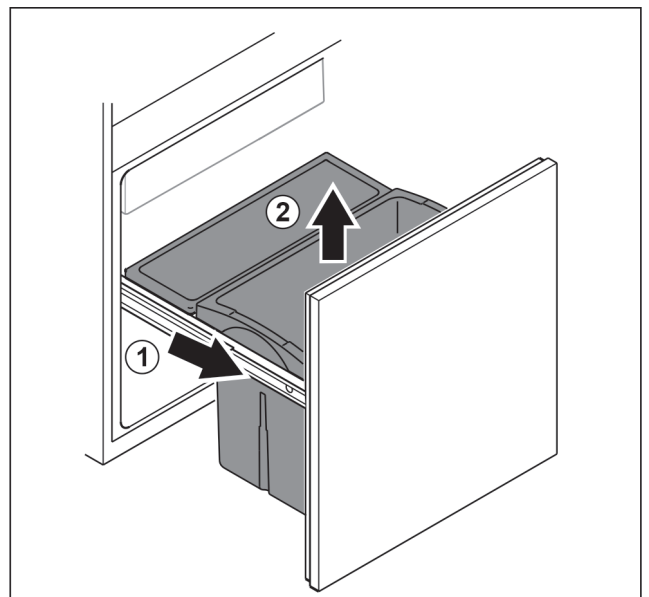

Fig. 148
- ▶ Remove the pull-out unit as far as it will go. Fig. 148 (1)
- ▶ Remove drawer upwards. Fig. 148 (2)